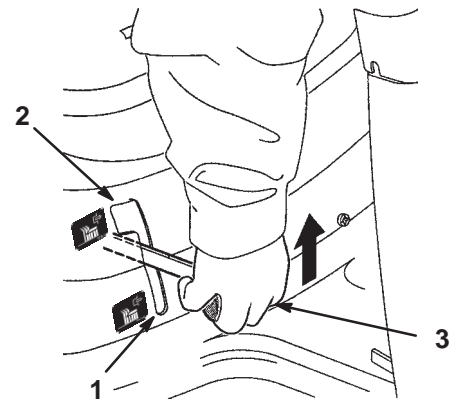

Figure 7
4. Shift the blade control (PTO) lever to Disengage (Fig. 7).